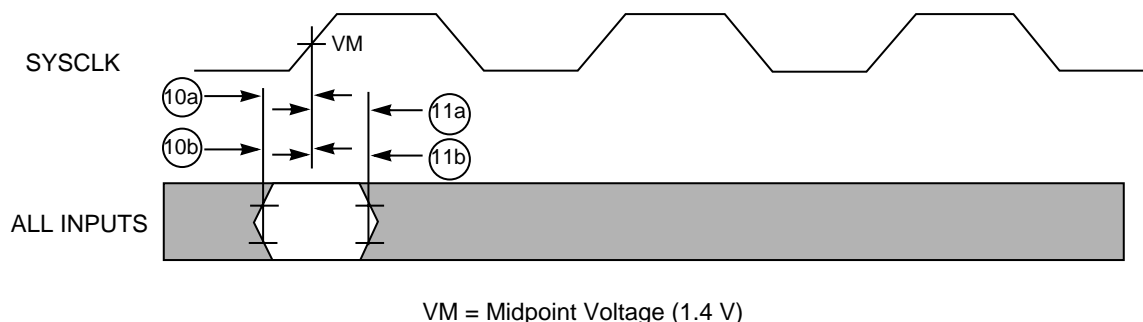
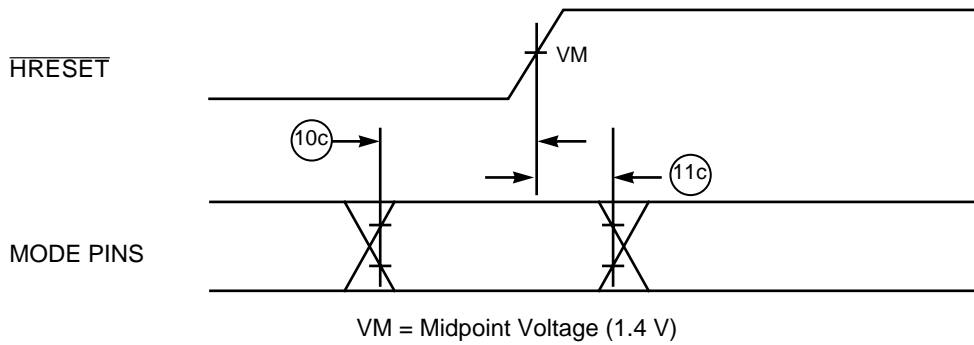

Figure 2. Input Timing Diagram
Figure 3. Mode Select Input Timing Diagram
Table 7 provides the input AC timing specifications for the PID7v-603e as defined in Figure 2 and Figure 3.
4. The setup and hold time is with respect to the rising edge of $\overline{\text{HRESET}}$ (see Figure 3).
Figure 2 provides the input timing diagram for the PID7v-603e.
Figure 3 provides the mode select input timing diagram for the PID7v-603e.